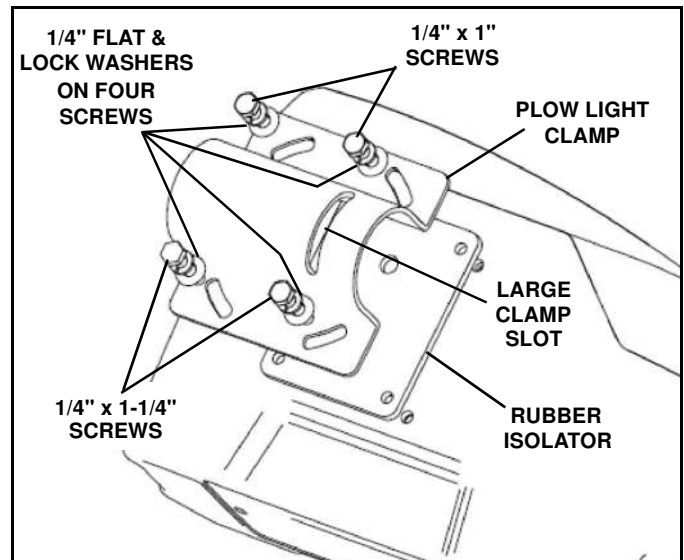

Figure 1-22
11. Position a plow light clamp and rubber isolator on the bottom of each plow light, aligning the corner slots in the clamp with the four holes in the isolator and light housings (See Figure 1-22)